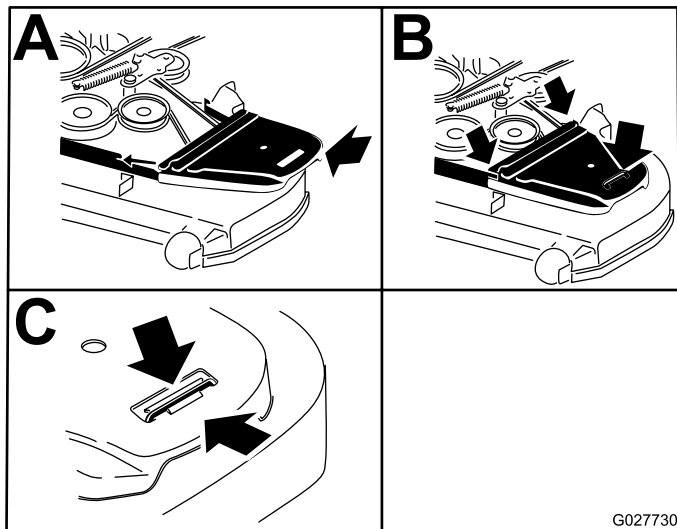

Figure 95
9. Install the belt covers (Figure 95).